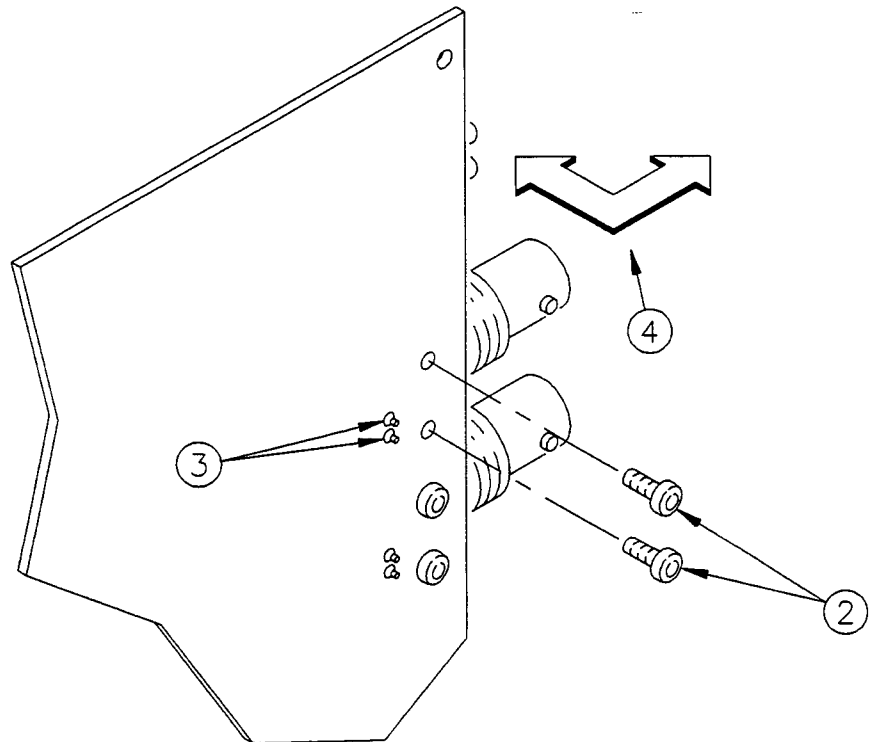

Figure 8-5. Remove/Install a BNC Connector.
- Step 2** Remove the two torx screws that secure the BNC connector to the PC board (see Figure 8-5).
- Step 3** Unsolder the BNC connector from the PC assembly at its two solder points (see Figure 8-5).